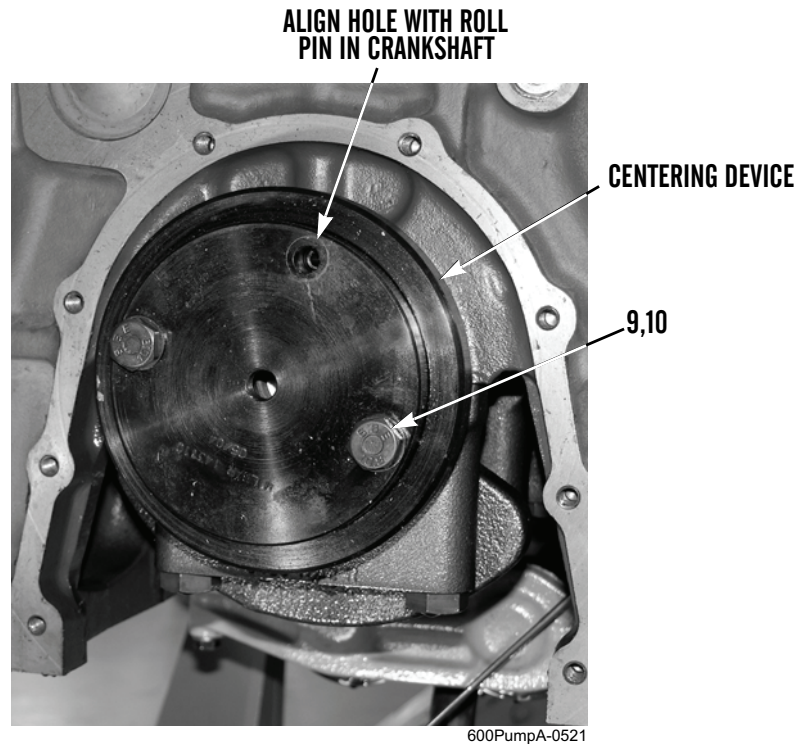

Figure 5. Centering Device.
1. Install centering device (Figure 5) on crankshaft and secure with two bolts (Figure 5, Item 9) and washers (Figure 5, Item 10).